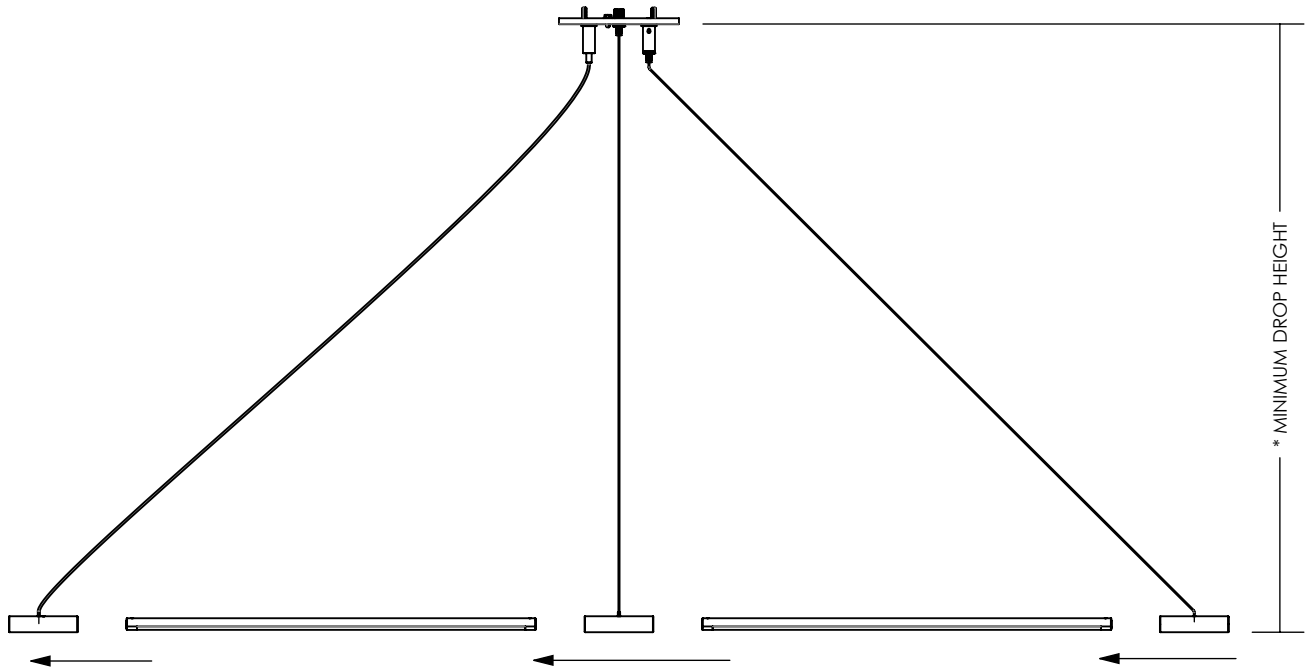

FIGURE 13
1. Drop the fixture's suspension height to meet the minimum requirement shown in Figure 13 to avoid damaging the light tubes.